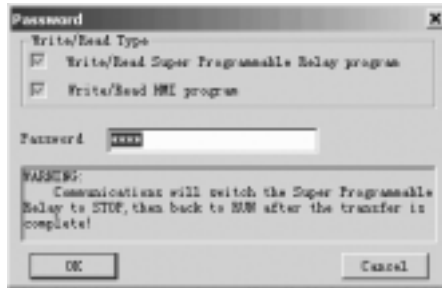

Fig. 4.23 Confirm Password
- c. Click option “PC->Super Programmable Relay” under menu “Controller”; or click button “” in toolbar, dialog box shown as Fig. 4.23, input your password (attn: the original password is 2002).
- a. Click option “Super Programmable Relay->PC” under menu “Controller” with left button of mouse, or click “” under toolbar, dialog box like Fig. 4.23 appears, input your password (Attn: the original password is 2002)